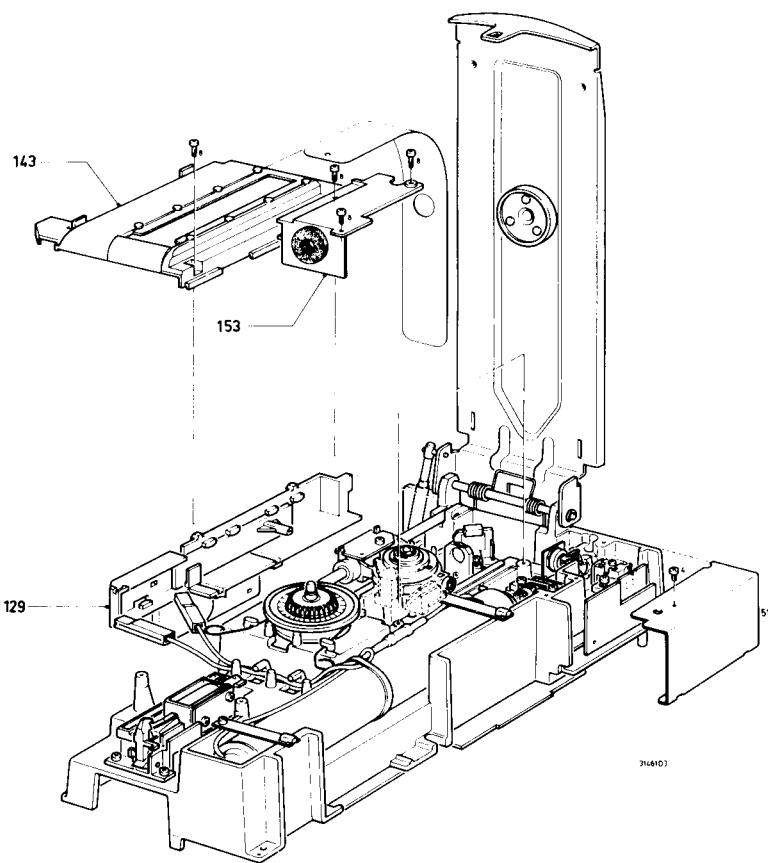
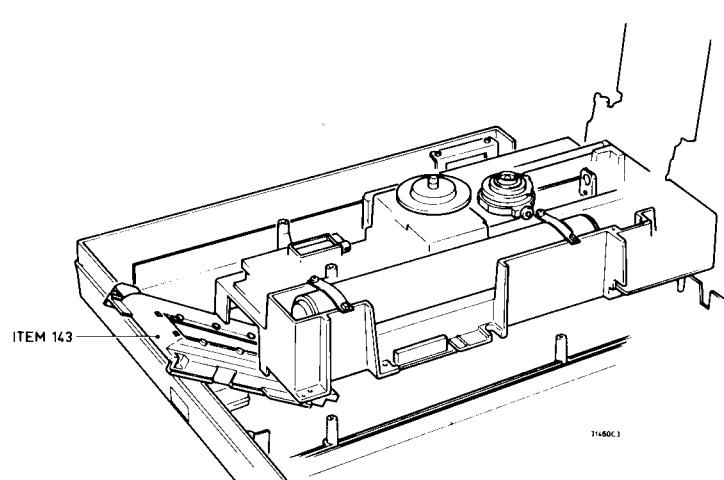

Fig. 1
Fig. 2
1. Remove the covers (items 143, 153 and 511) and the slide drive mechanism (item 129) as shown in Fig. 1. Remove the deck from the cabinet by undoing the four fixing screws. Place the deck with its rear side on the rear cabinet edge and place cover 143 underneath the front, as indicated in Fig. 2.